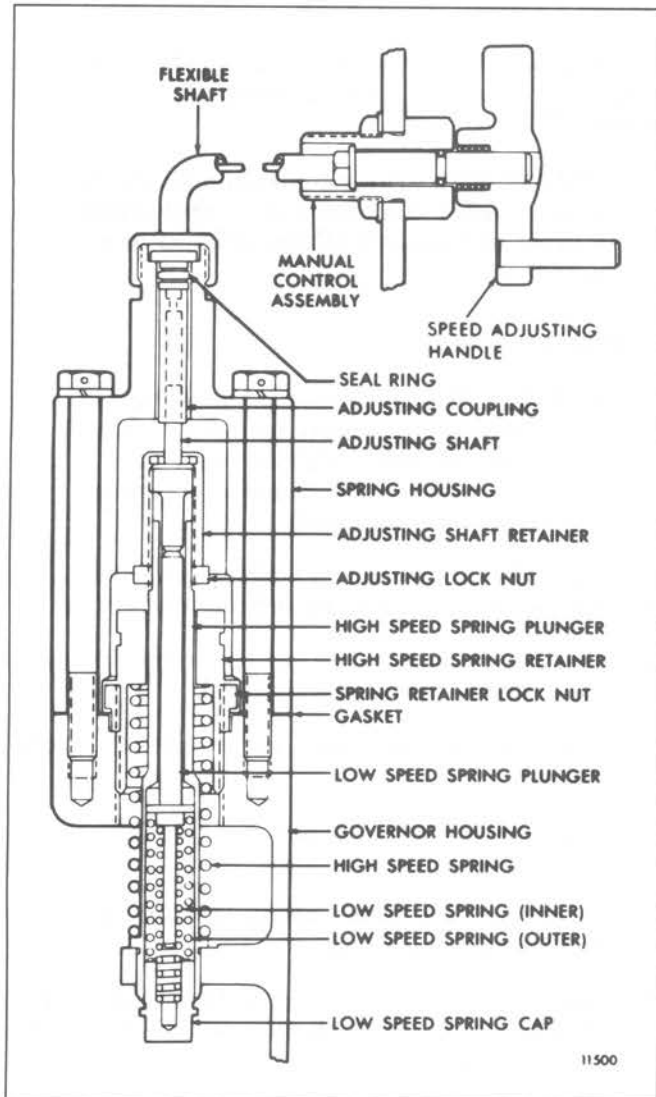

Fig. 1 – Cable Operated Governor Spring Housing and Components
- b. Raise the connecting pin up in the control link operating lever (Fig. 1). Insert the end of the fuel rod between the two bosses on the lever and insert the connecting pin through the fuel rod and into the lower boss.
During highway operation, the governor functions as a limiting speed governor, controlling the engine idling speed and limiting the maximum operating speed. At the unloading area, the throttle is left in the idle speed position and the speed adjusting handle, on the cable operated governor (Fig. 1), is turned to the speed required within the above range to operate the auxiliary equipment. For the air operated governor (Fig. 3), the engine speed is changed to the speed required by increasing or decreasing the air supply pressure to the governor. The governor then function as a variable speed governor, maintaining a constant speed when the load is constantly changing, during the unloading operation. Before resuming highway operations, the speed adjusting handle on the cable operated governor must be turned back to the stop, then turned ahead about one-quarter of a turn. The air operated governor's air supply pressure must be vented before resuming highway operations.
The variable low-speed limiting speed governor is similar to the limiting speed governor with the exception of the spring housing and its components. Therefore, disassemble the governor as outlined in Section 2.7.1, then disassemble the spring housing and its components (Fig. 1) as follows: